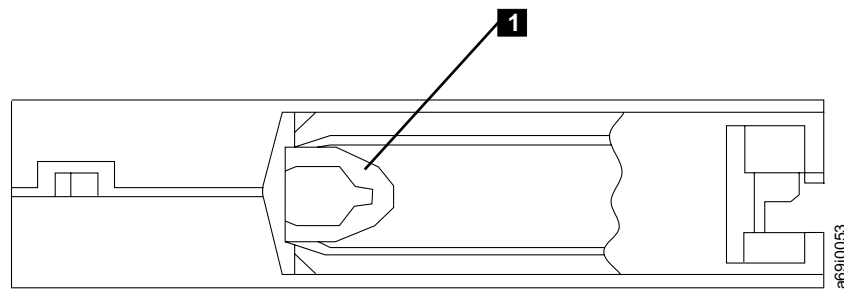

Figure 55. Cartridge leader in correct position
8. Ensure that the tape leader is positioned correctly (see **1** in Figure 55). If the leader is pulled too far into the cartridge, the drive cannot attach to it and pull the tape into the drive. Also, ensure that the tape is wound securely on the cartridge reel and is not loose. Check whether the loop on the leader is damaged; if so, replace the cartridge.